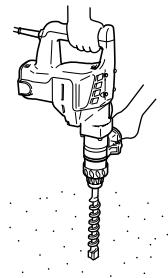

Fig. 9
- Switch the selector lever to "hammering" according to the procedures mentioned in the above item (1) and secure the position of the tool.
5. Warming up (Fig. 9)